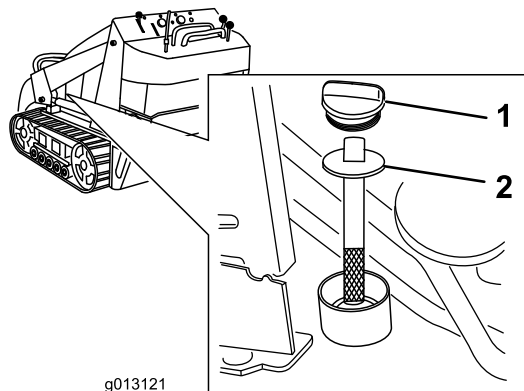

Figure 63
5. Clean the area around the filler neck of the hydraulic tank (Figure 63).
6. Remove the filler-neck cap and check the fluid level on the dipstick (Figure 63).